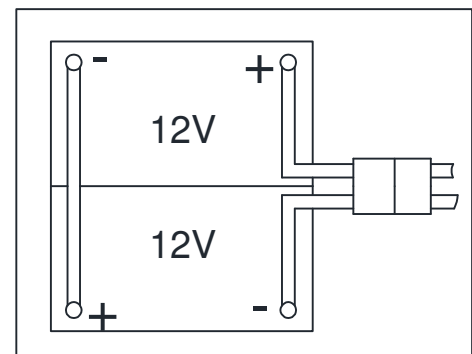

Figure 3
The machine requires two 12 V batteries, connected according to the diagram (Figure3).
- Open the recovery tank cover (1) and check that the recovery tank (25) is empty; otherwise empty it with the drain hose.(22)
- Close the recovery tank cover (1).
- Overturn the recovery tank (25) carefully.
- Route and install the battery cable as shown in (Figure3), then carefully tighten the nut on each battery terminal.
- Place the protection cap on each terminal, then connect the battery connector (54).
- Carefully lower the recovery tank (25).